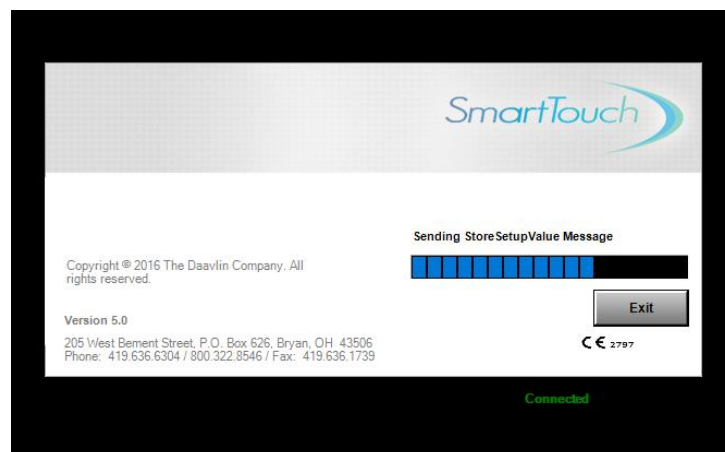

Figure 9 – Loading Screen
5. After saving the password, the system will display the loading screen (See **Figure 9 – Loading Screen**) while the software is booting up and connecting with the unit for the first time. The process in progress will be displayed in the top left corner of the screen (See **Figure 9 – Loading Screen**). Below the progress bar, the status of the unit connection will be displayed with a green “connected” (See **Figure 9 – Loading Screen**) or a red “disconnected” message. Make sure your unit is turned on and fully booted up for the “connected” message to occur.
4. Retype the new password, and then tap **Save** once. The Main Menu screen will be displayed (See **Figure 9 – Loading Screen**), the user password will be changed, and login is complete.